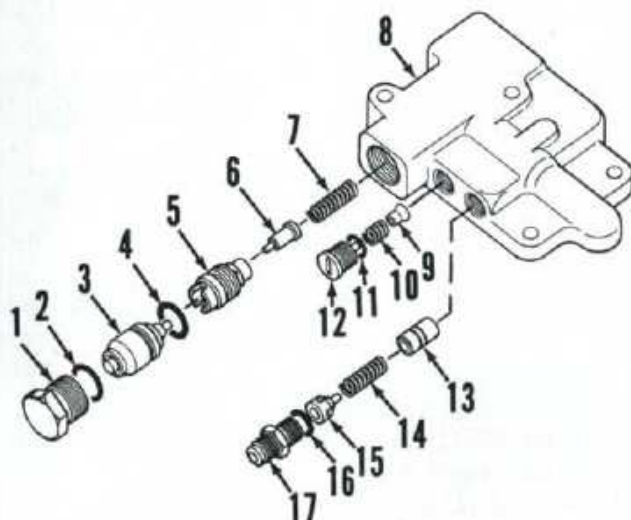

Fig. 162—Exploded view of unloading and flow control valve.
To disassemble the unloading and flow control valve, remove plug (1—Fig. 162) with "O" ring (2). Use pliers and remove piston (3) with "O" ring (4). Using special tool IH7846A or equivalent, unscrew unloading valve body (5). Remove unloading valve (6) and spring (7). Remove check valve plug (12) with "O" ring (11), spring (10) and check valve (9). Remove union (17) with "O" ring (16), then withdraw spring guide (15), spring (14) and flow control valve (13).